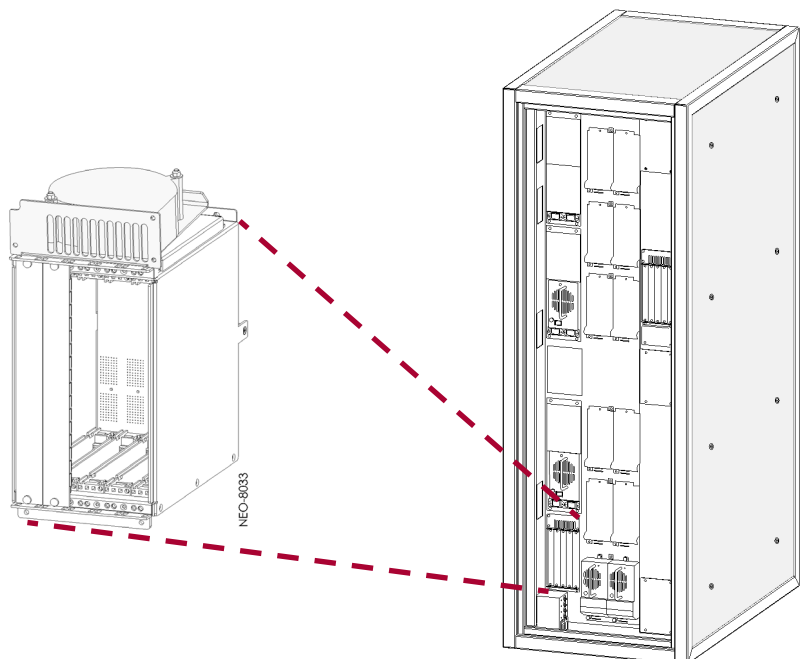

Figure 3-8: Location of Fan/Card Cage Assembly
- At the Master module, remove the screws holding the Primary Card Cage assembly (see Figure 3-8).